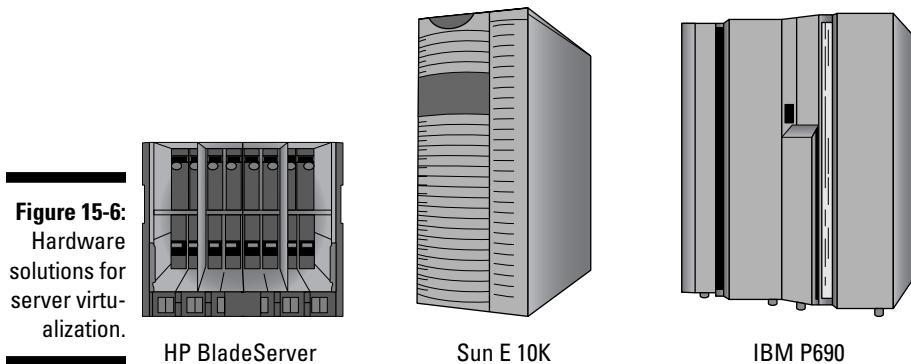

Figure 15-6:
An example of some hardware-based server virtualization solutions can be seen in Figure 15-6.
The *Big Iron* (that's geek slang for powerful servers) shown in Figure 15-6 will enable dozens of applications to run at the same time in less footprint than would be required using traditional servers. The HP BladeServer rack shown uses individual server or storage blades that slide into the rack and are connected over a high-speed backplane; the blades share I/O ports to reduce costs but still provide superior performance. The much more expensive Sun and IBM solutions are well known around the world for being the hardware that makes businesses run. These *domain-class* (DC) and *logical partition* (LPAR) solutions can run multiple computing tasks using different versions of operating systems